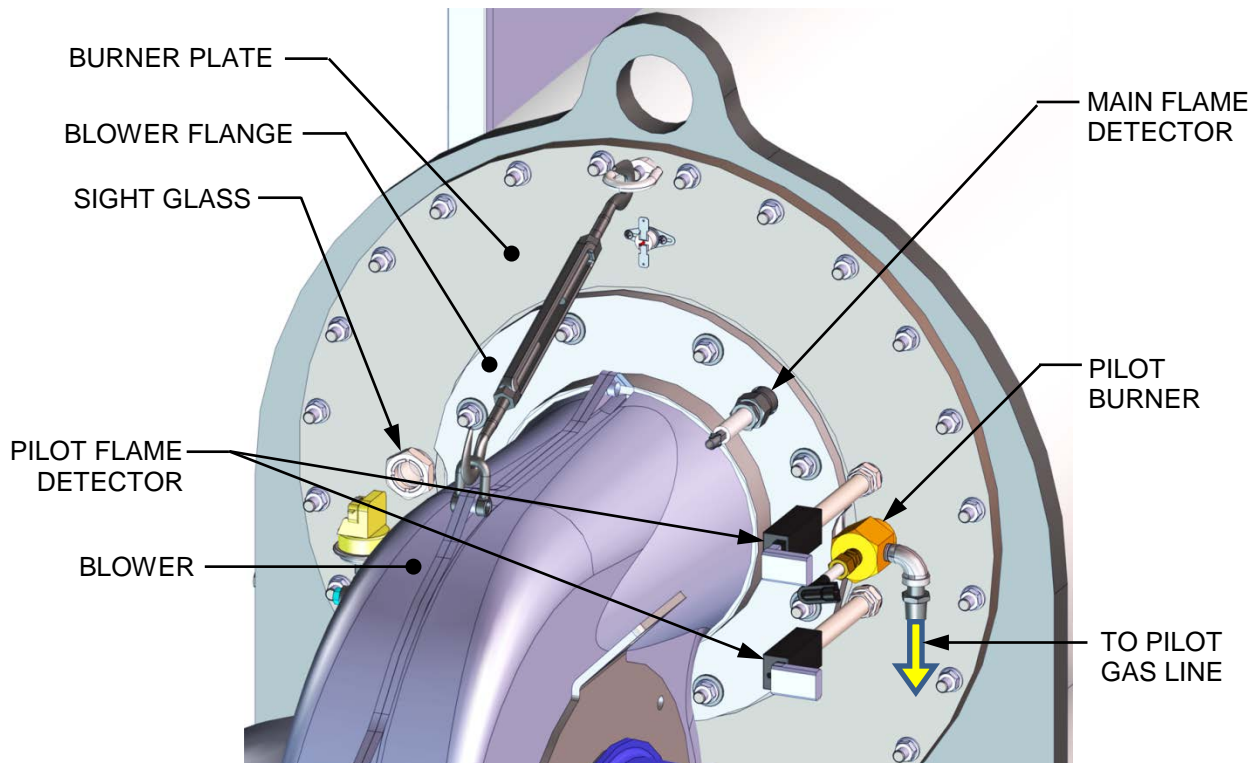

Figure 7-1: Pilot Burner, Main & Pilot Flame Detector Mounting Locations
The Pilot Burner (P/N 29700) is located on the right-front of the Burner Plate. It contains an ignition cable and a Pilot gas line connected to the bushing. Figure 7-1 shows the location of the Pilot Burner and related components.
3. Disconnect the ignition cable from the Pilot Burner (Figure 7-1).
4. Using a 1/2" open-end wrench, disconnect the Pilot gas line from the reducer fitting and elbow shown in Figure 7-1.
The Main Flame Detector (part no. 65136) is located on the Blower Flange near the top of the unit (see Figures 7-1). The Main Flame Detector may be hot. Allow the unit to cool sufficiently before removing the Main Flame Detector. Inspect or replace the Main Flame Detector as follows: